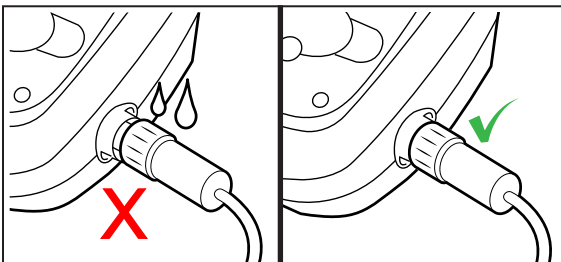

**Figure 4. Connect Floating Power Cable**
2. Grip the notched end of the floating power cable, insert into the control box, and turn clockwise to tighten (Figure 4).